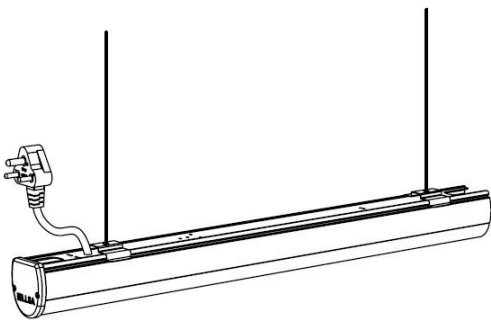
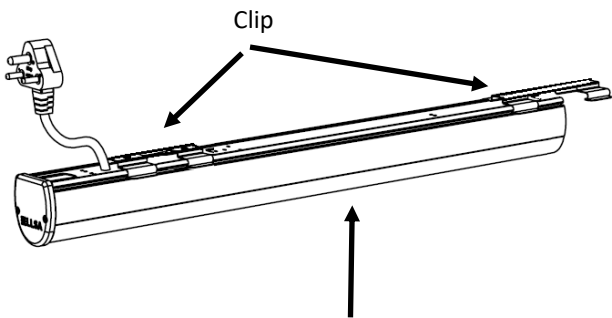

FIG. 1
FIG. 5
- Clip the first master fitting into position as shown in Fig 1 you will hear a CLICK when the bracket is secure.
- Clip the first master fitting into position as shown in Fig 1 you will hear a CLICK when the bracket is secure. Fig. 5